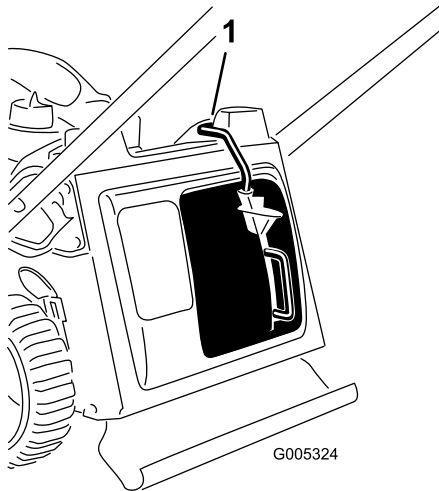

Figure 24
**Important:** The machine has a safety switch that prevents you from starting the machine unless you first install the recycle plug securely on the machine (Figure 24).